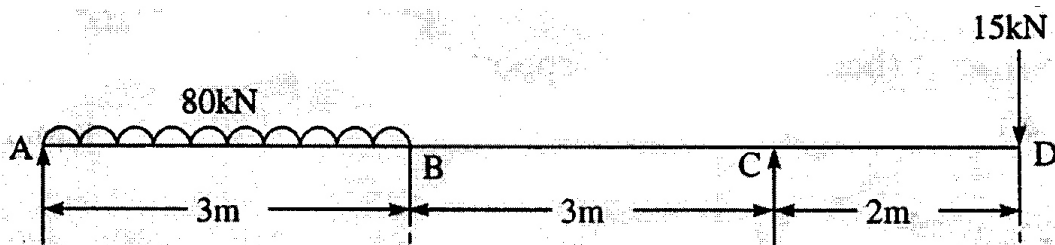

Fig. 2
12. Calculate the reactions for the beam shown in Fig. 2. Construct the bending moment and shear force diagrams. Determine the location of the maximum bending moment and mark it clearly on the bending moment diagram.